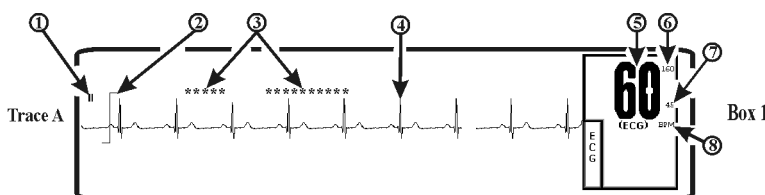

Figure 4-1. ECG Trace and Numerical Displays
4.1.2 Associated Waveforms and Displays. (See Figure 4-1) ECG information is displayed as a waveform in the Trace A location and as numeric data in the Box 1 and 2 locations. The following is a description of the items contained within the ECG Display.